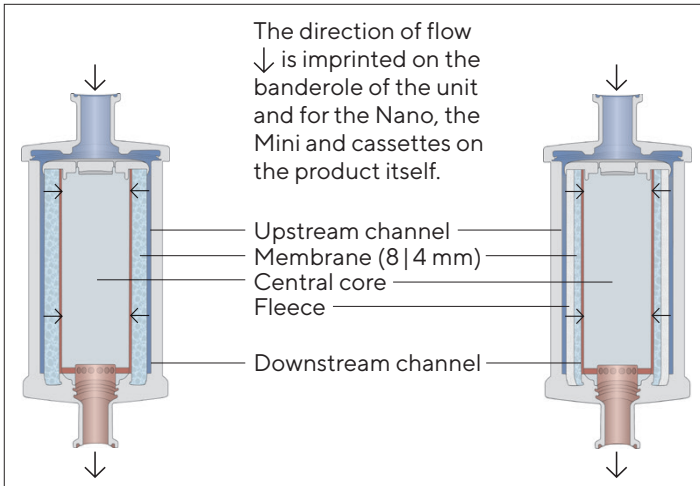

Fig. 3: Construction and flow path inside the 8 mm (left) and 4 mm (right) capsules.
- ▷ The flow is guided to the upstream channel (i.e. the solution enters the product) passing through the membrane layers to the downstream channel and to the outlet of the product (see Fig. 3).